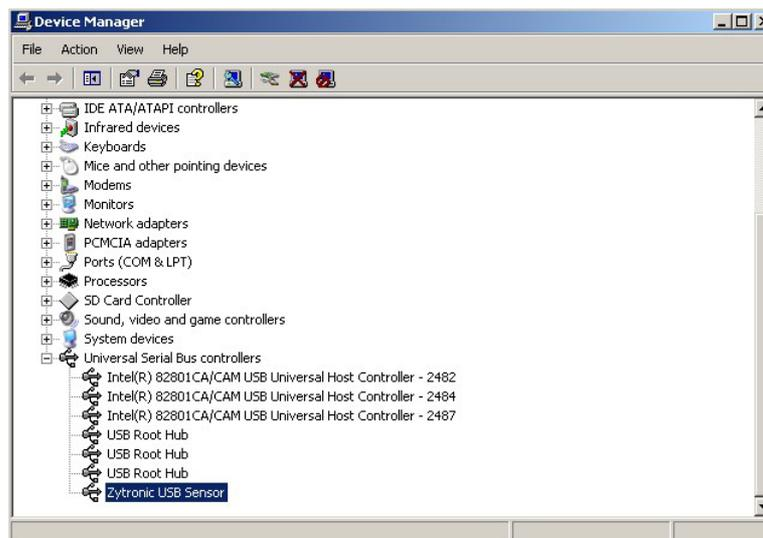

Figure 15: *Zytronic USB Sensor connected and displayed in the Windows Device Manager*
6. Confirm that the ZYTOUCH® Projected Capacitive Touchscreen is successful connect by locating its connection in the **Device Manager** list, as illustrated in Figure 15.